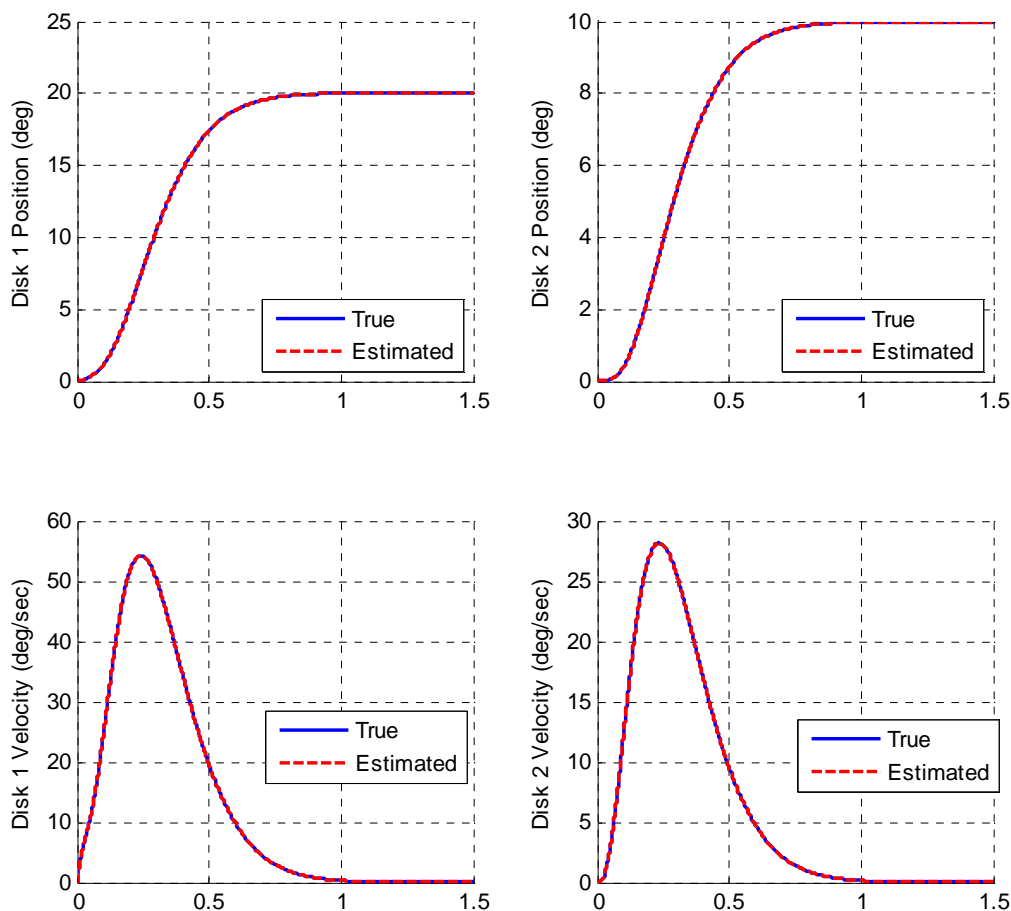

Figure 13. Full order observer for a 2 dof system (problem 4c).
b) Modify `sv2_observer_driver.m` to plot the each of the true and estimated states on the same graph. See Figure 13 for an example.
c) For an input of 10 degrees, a final time of 1.5 second, and both the state feedback and observer poles at $p = [-10, -12, -14, -16]$, controlling the position of the second disk with the input to the observer the position of the second disk, you should get a graph like that in Figure 13.